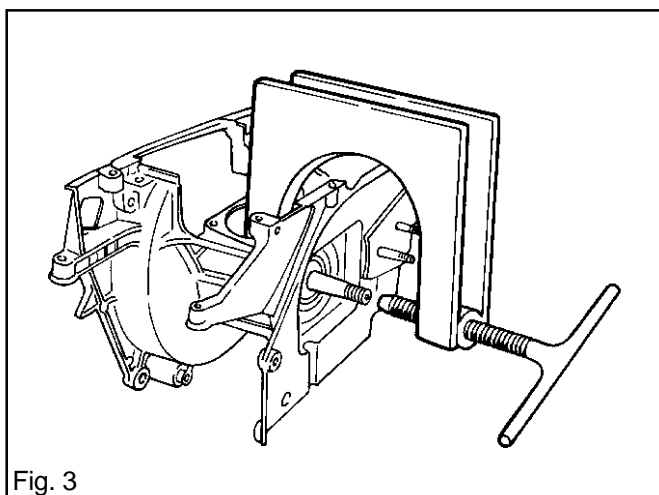

Fig. 3
5. Fit tool 502 51 61-01 as shown in fig. 3 and remove the clutch side crankcase half.